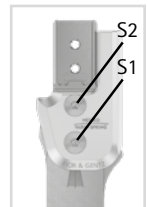

fig. 14
- 9 Screw in the second countersunk flat head screw (S2; fig. 14).
- 1 Loosen the screws for the cover plate (fig. 14) after checking the system joint's free movement and remove them from the cover plate.
- 3 Secure the screws for the cover plate (fig. 14) with the torque corresponding to the system width.